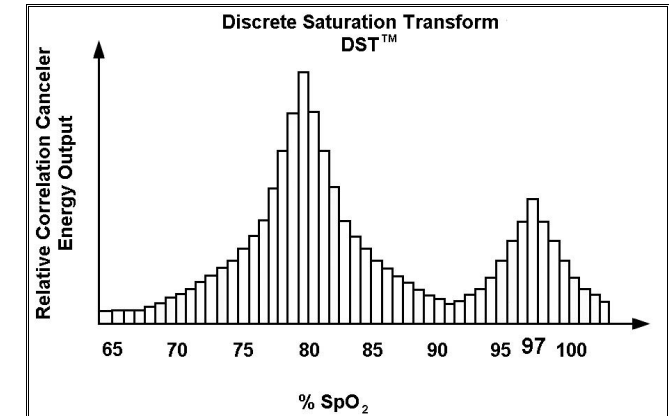

Fig. 15 DST plot of output power vs. SpO2 value
The equation for the noise reference N' is based on the value of R, the value being sought to determine the SpO2. The MS-3 software sweeps through possible values of R that correspond to SpO2 values between 1 % and 100 % and generate an N' value for each of these R values. The S(660) and S(940) signals are processed with each possible N' noise reference through an adaptive correlation canceller (ACC) which yields an output power for each possible value of R (i.e. each possible SpO2 from 1 % to 100 %). The result is a Discrete Saturation Transform (DSTTM) plot as shown in Fig. 15, where R corresponds to SpO2 = 97%.